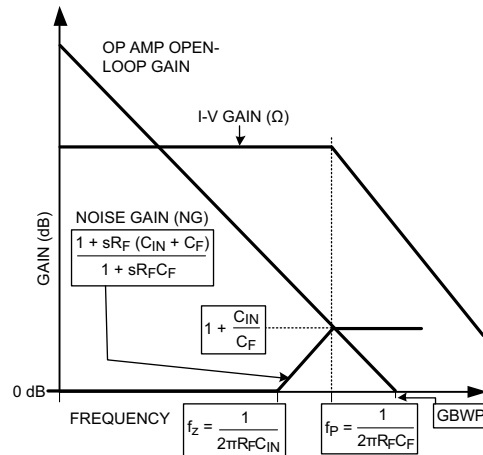

Figure 56. Transimpedance Amplifier Graphical Stability Analysis and Compensation
The diode capacitance (C_D) combined with the input capacitance of the LMH6601 (C_A) has a bearing on the stability of this circuit and how it is compensated. With large transimpedance gain values (R_F), the total combined capacitance on the amplifier inverting input ($C_{IN} = C_D + C_A$) will work against R_F to create a zero in the Noise Gain (NG) function (see Figure 56). If left untreated, at higher frequencies where NG equals the open-loop transfer function excess phase shift around the loop (approaching 180°) and therefore, the circuit could be unstable. This is illustrated in Figure 56.
Figure 56 shows that placing a capacitor, C_F , with the proper value, across R_F will create a pole in the NG function at f_p . For optimum performance, this capacitor is usually picked so that NG is equal to the open-loop gain of the op amp at f_p . This will cause a “flattening” of the NG slope beyond the point of intercept of the two plots (open-loop gain and NG) and will result in a Phase Margin (PM) of 45° assuming f_p and f_z are at least a decade apart. This is because at the point of intercept, the NG pole at f_p will have a 45° phase lead contribution which leaves 45° of PM. For reference, Figure 56 also shows the transimpedance gain (I-V (Ω))
The op amp noise voltage will be gained up in the region between the noise gain's "zero" and its "pole" (f_z and f_p in Figure 56). The higher the values of R_F and C_{IN} , the sooner the noise gain peaking starts and therefore its contribution to the total output noise would be larger. It is obvious to note that it is advantageous to minimize C_{IN} (for example, by proper choice of op amp, by applying a reverse bias across the diode at the expense of excess dark current and noise). However, most low noise op amps have a higher input capacitance compared to ordinary op amps. This is due to the low noise op amp's larger input stage.